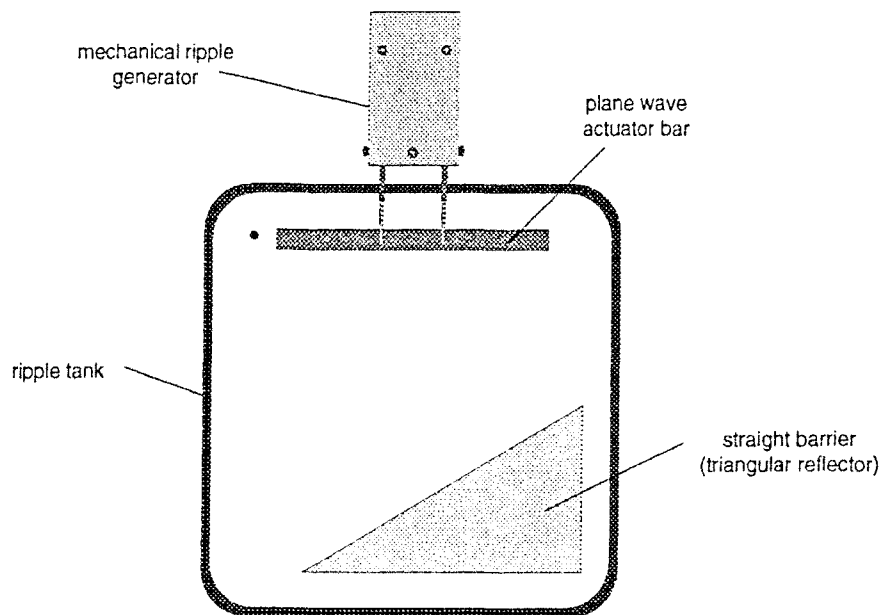

Figure 1.2: Position of Straight Barrier
- ① Place the straight barrier in the water at an angle to the incoming plane waves. See Figure 1.2.
- ② On the paper below the tank, place the metric rule parallel to the plane waves that are incoming to the barrier. Make a line to show the incoming wave front.
- ③ Align the rule with the reflected wave and make a line to show the reflected wave.
- ④ Trace the position of the straight barrier.
- ⑤ Turn off the light source and ripple generator.
- ⑥ Draw a line that is perpendicular to the incoming wave front. Extend it to the straight barrier. This represents the incoming ray so draw an arrow on it pointing toward the barrier.
- ⑦ Draw a line from the point where the incoming ray strikes the barrier so it crosses the reflected wave front at a right angle. This represents the reflected ray so draw an arrow on it pointing away from the barrier.
- ⑧ Draw the normal (perpendicular) line at the point of reflection on the barrier.
- ⑨ Measure the angle of incidence, θ_i , and the angle of reflection, θ_r . What is the relationship between these angles? Record the results in Table 1.1.